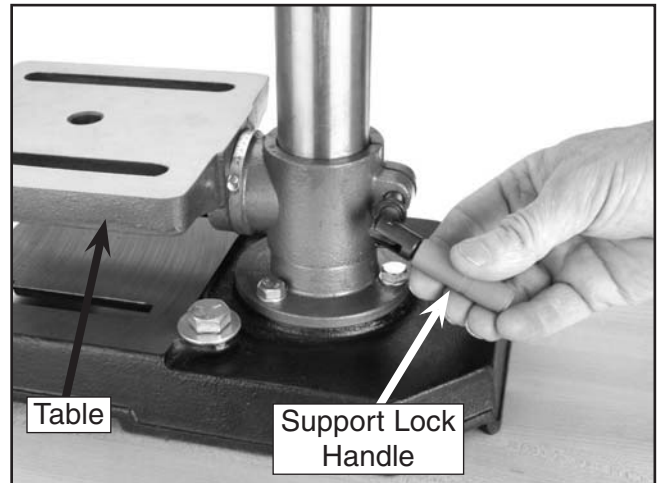

Figure 9. Installing support lock handle.
2. Install the support lock handle on the right side of the table support as shown in **Figure 9**.